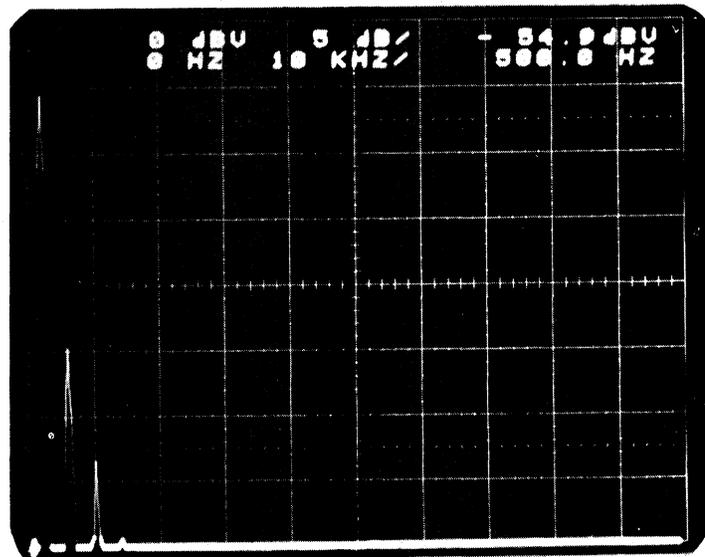
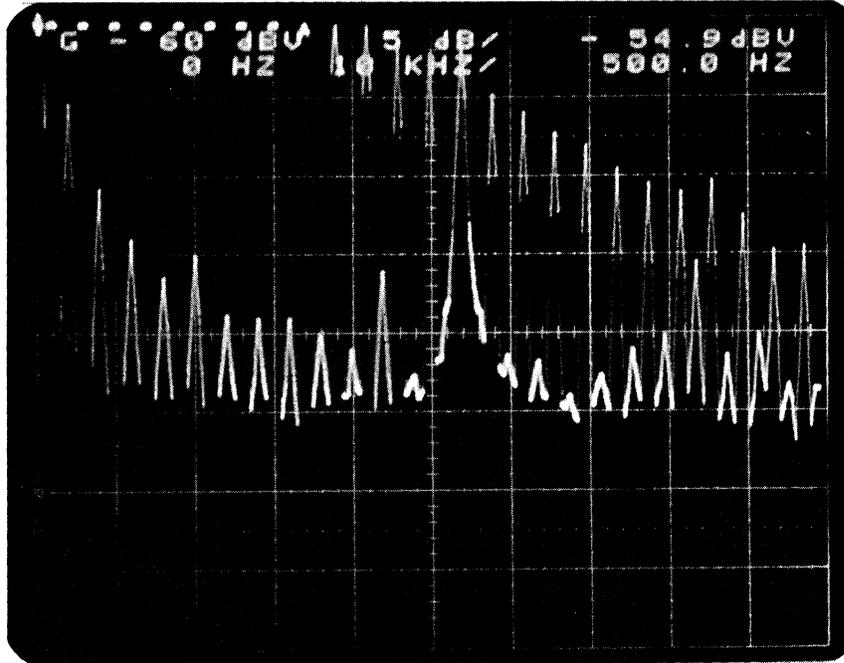

Fig. 4-9a Spectrum Amplitude Set at 5 dB/Div.; Spectrum Gain = 0 dB
Fig. 4-9b Spectrum Amplitude Set at 5 dB/Div.; Spectrum Gain = 60 dB
- b. Move the SPECTRUM AMPLITUDE to 5 dB/div , (Fig. 4-9a). Jog the SPECTRUM GAIN up three (3) times. The top of the display range will move from 0 dB V to - 60 dB V (Fig. 4-9b). The lower level signals are now seen with more detail. Jog the SPECTRUM GAIN down three (3) times, thus returning to the display without gain. "G" is also removed from the screen.